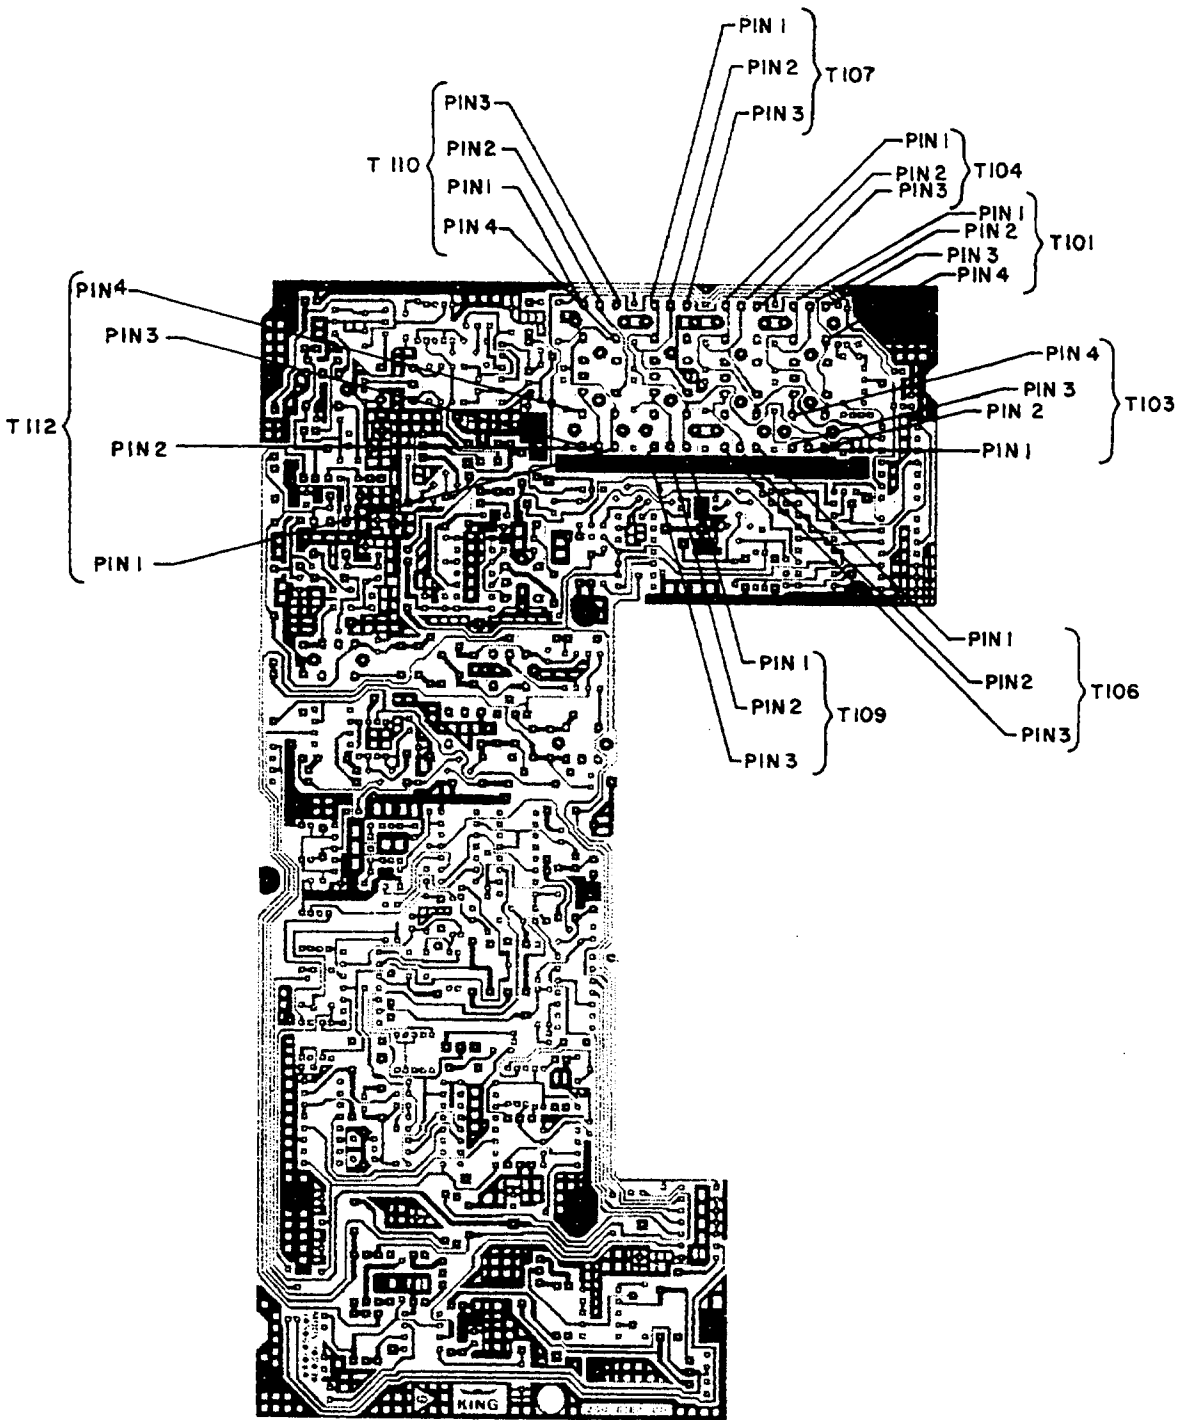

FIGURE 5-2 FAR SIDE OF RECEIVER BOARD
1. On the rear side of the receiver board, solder a small jumper wire from pin 2 to pin 4 of T101. Also solder a jumper from pin 2 to pin 4 of T103 (see Figure 5-2).